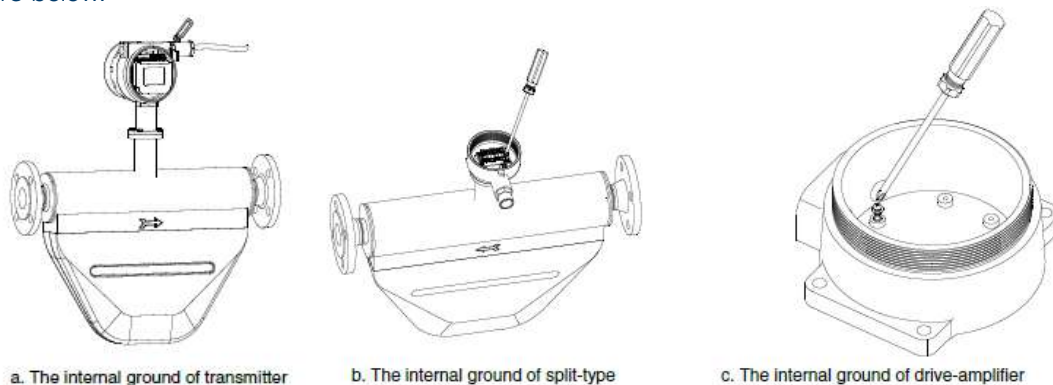

Fig. 4.12 Internal grounding
- » The ground wire is as short as possible, impedance is less than 1Ω. The cross-sectional area of the internal ground wire must be greater or equal to the power cable. Internal grounding reference identification operation as show in figure 4.12. In figure 4.12 a, for transmitter had used a wire (cross-sectional area 2.5mm²) connected the internal ground screw to the pin 'FG' of power terminal, and user just need to tighten the ground wire of three-core power cable to the power terminal as figure 4.11. In figure 4.12 b, twist the shielded wire of the nine-core wire and connected it to the internal grounding insert. And in figure 4.12 c, use one of the three-core power cable as a ground wire connected to the insert.